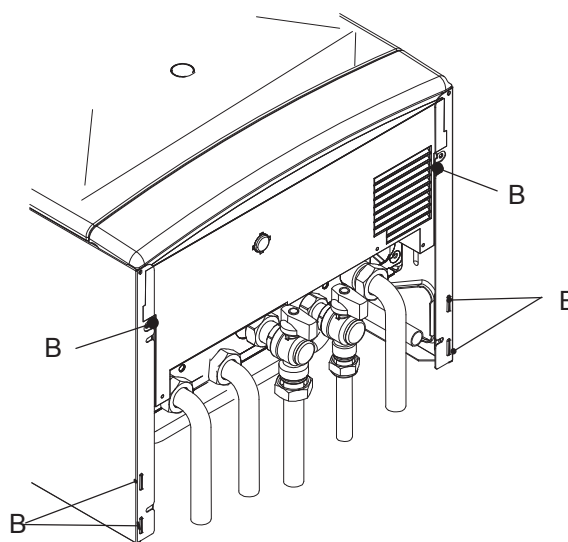

Fig. 8.2
- 3 Loosen the screws B. Bring the bottom of the panels away from the boiler and lift them, freeing them from the top hooks (Fig. 8.2).